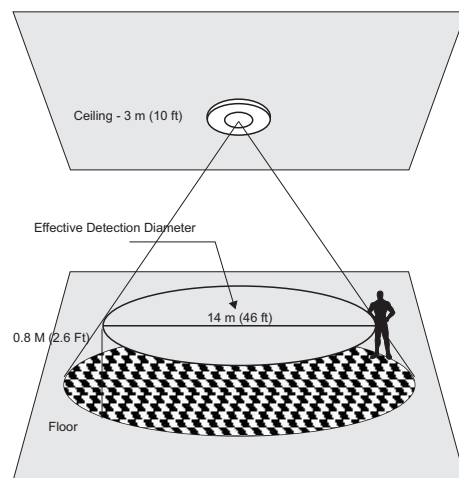
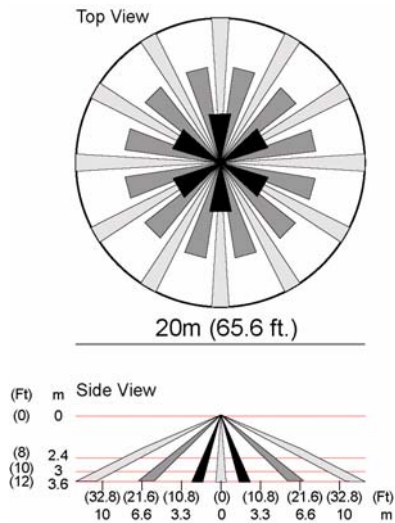

Figure 3 ES1265 Detection Diameter
Figure 4 ES1265 Lens Pattern
- The ES1265 can be mounted to a maximum height of approximately 18 feet (5.5 meters). At 18', the PIR detection pattern is about twice the diameter of a 10' (3m) installation. As mounting height increases, distance between detection zones also increases toward the perimeter, and the effects of factors such as floor surface temperature and intruder direction and speed are intensified. This can contribute to reducing speed of detection. Every installation should include a walk test of detection zones, including intrusion paths crossing the edges of the zones. See Figure 3 and Figure 4 for more information.